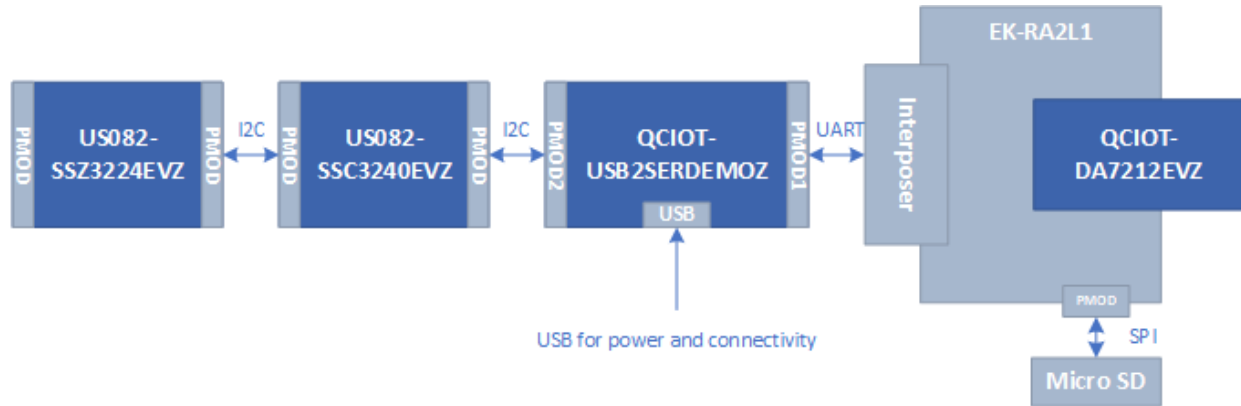

Figure 2. Test setup block diagram
2.1.1. The test setup block diagram is shown in *Figure 2*.